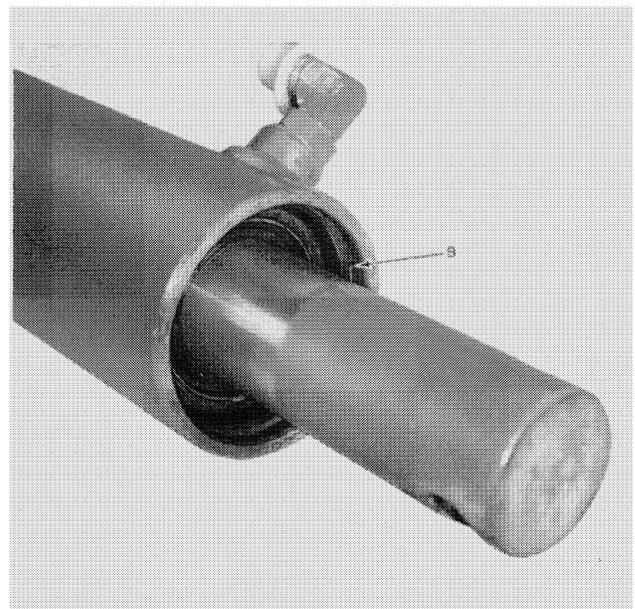

FIGURE 39
2. Tap the cylinder head, Figure 39, into cylinder far enough to remove retaining ring, B, with a screwdriver.
5. Insert complete piston rod assembly into barrel and install retaining ring, B, Figure 39.